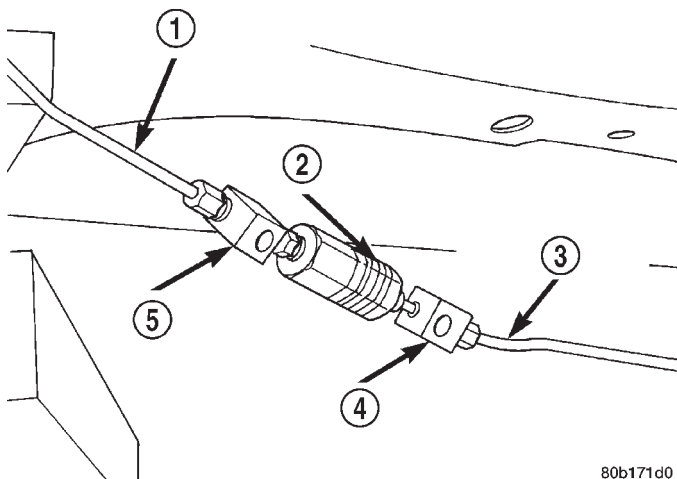

Fig. 20 Proportioning Valve With Pressure Test Fittings Installed
(7) Install the proportioning valve with the pressure test fittings installed, in the chassis brake tube (Fig. 20). Tighten both tube nuts to a torque of 17 N·m (145 in. lbs.).